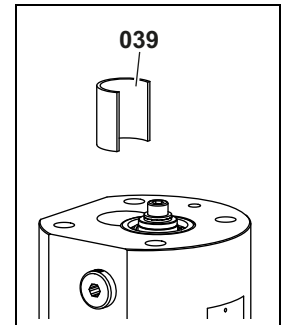

Fig. 11
8. Slide the set of screws in the measuring housing **128**. Slide the distance sleeve **039** into the hole of the measuring screw small **672.2**, see Fig. 11, page 32.